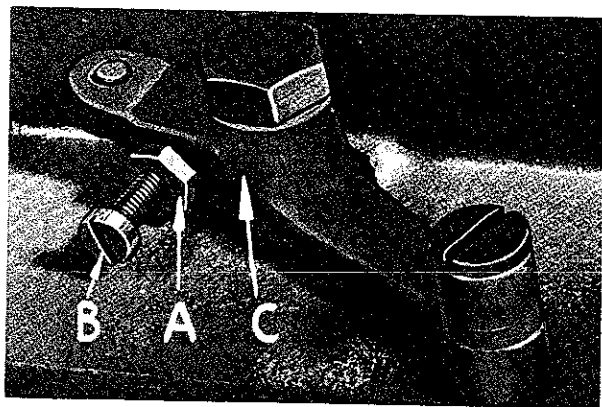
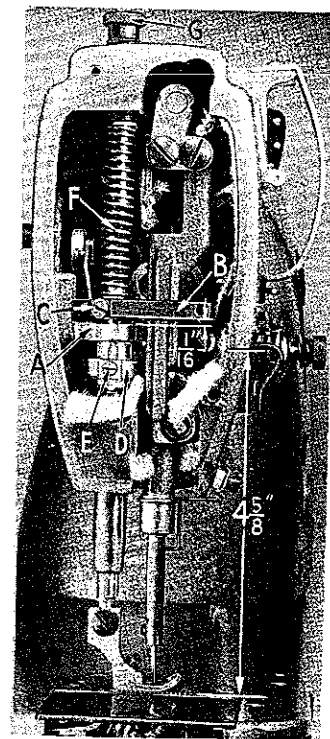
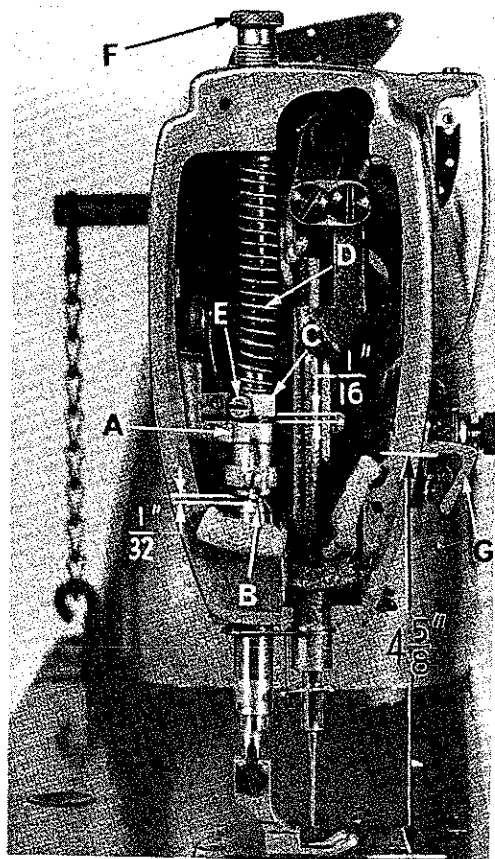

Fig. 15
Fig. 16
Fig. 16A
The presser spring should exert only enough pressure to make the work feed uniformly. To increase the pressure on the presser foot, turn presser spring regulator (G, Fig. 16) in clockwise direction. Turning the regulator counterclockwise decreases the pressure.
The presser bar connection (A, Fig. 16) should be set so that it is about $1/16$ inch below the presser bar guide (B). This is accomplished by tipping the machine back against the rest pin, loosening the lock nut (A, Fig. 15), and relocating the stop screw (B) on the lifter lever bell crank (C). By turning the stop screw to the right or left, the proper setting of the presser bar connection is accomplished. Tighten the lock nut (A) to lock the stop screw in place.
The presser bar connection (A, Fig. 16A) should be set so that it is approximately $\frac{1}{32}$ inch above the lower presser bar bushing (B, Fig. 16A). This is accomplished by tipping the machine back against the rest pin, loosening the lock nut (A, Fig. 15) and relocating the stop screw (B) on the lifter lever bell crank (C). By turning the stop screw to the right or left, the proper setting of the presser bar connection is accomplished. Tighten the lock nut (A) to lock the stop screw in place.
When locating the presser bar guide (B, Fig. 16), the presser foot must rest directly against the throat plate with the feed dog in its lowest position. The guide is set properly when there is a $4 \frac{5}{8}$ inch space between the underside of the needle thread take-up wire and the top of a thin (.085 inch thick) throat plate (Fig. 16).
When locating the presser bar guide (C, Fig. 16A) the presser foot must rest directly against the throat plate with the feed dog in its lowest position. The guide is set properly when there is a $\frac{1}{16}$ inch space between the guide (C) and the presser bar connection (A, Fig. 16A).
To obtain this setting, remove the pressure from the presser spring (D, Fig. 16A) and loosen set screw (E). Tap on presser foot to insure its being down on the throat plate. Set the guide to the $\frac{1}{16}$ inch dimension, center the foot by turning it so that the needle enters the middle of its slot and retighten screw (E) in the guide. Now apply pressure by turning the presser spring regulator (F) clockwise.
Set the needle thread pull-up bracket (G) so that the underside of the wire is $4 \frac{5}{8}$ inches above the throat plate (Fig. 16A).
The tension release should be set so that it will not release when sewing over seams or when the presser foot is raised for back tacking. The adjustment of the tension release cam (D, Fig. 16) and the in and out position of the tension assembly are required for proper operation.
The tension release cam (D, Fig. 16) should now be positioned by loosening set screw (E, Fig. 16) and then raising or lowering the cam to suit the sewing conditions. The average release point is between 1/4 and 5/16 inch of presser foot lift above the throat plate. Tighten tension release cam set screw securely.